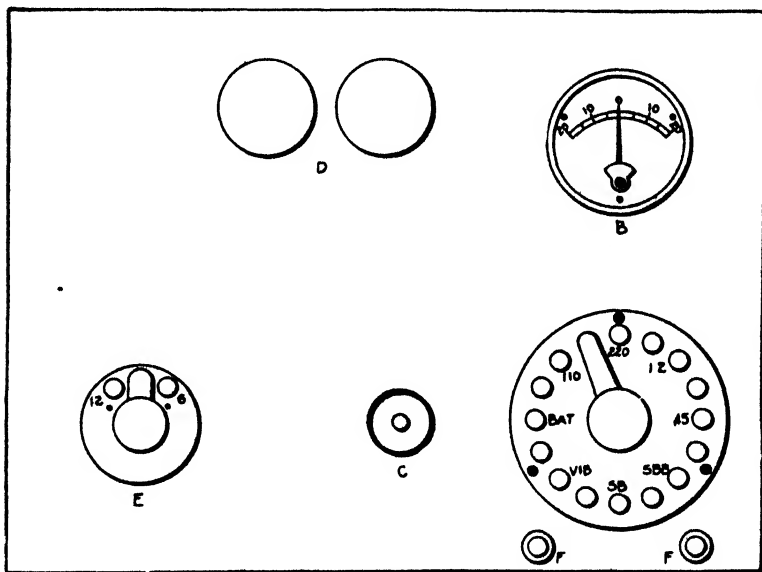
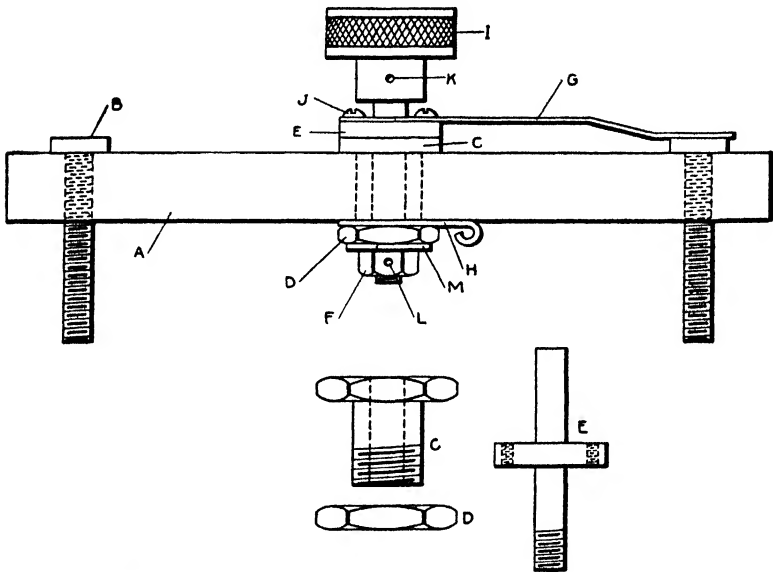

Fig 18 Ignition Switchboard
Fig. 20. Construction of Combination Switch for Ignition Test Board
**Ignition Switchboard.** For quickness in operation, the single break must be connected so that any type of coil can be tested without using separate ballast coils or leads. This is accomplished by having everything on one switch, as shown in Fig. 18. The
The construction of the switch is shown in Fig. 20. The base *A* is made of  $\frac{1}{2}$ -inch red fiber, mounted on a mandrel and turned in the lathe to a true circle. It is then placed in the chuck without the mandrel and the two sides faced off; sixteen 12-24 right-hand brass screws are then screwed into the base, Fig. 18. The base is again chucked and the heads are